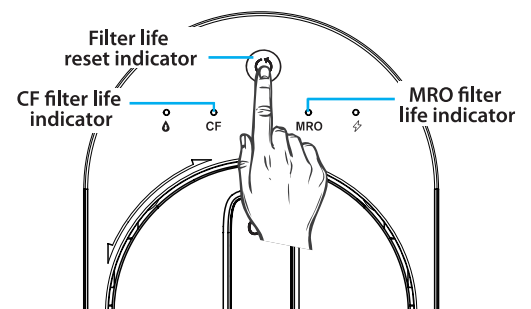

Figure 4
- (1) Press the filter life reset indicator for 5 seconds (Figure 4). Release the indicator when you hear a beep. Now filters are ready to be reset;
- (2) Press the reset indicator and choose the MRO filter (there is no need to choose if only one filter expired). The MRO filter life indicator will flash when it is selected;
- (3) Press the reset indicator for 5 seconds again. The reset is completed when you hear a beep. The MRO filter life indicator will be permanent blue.